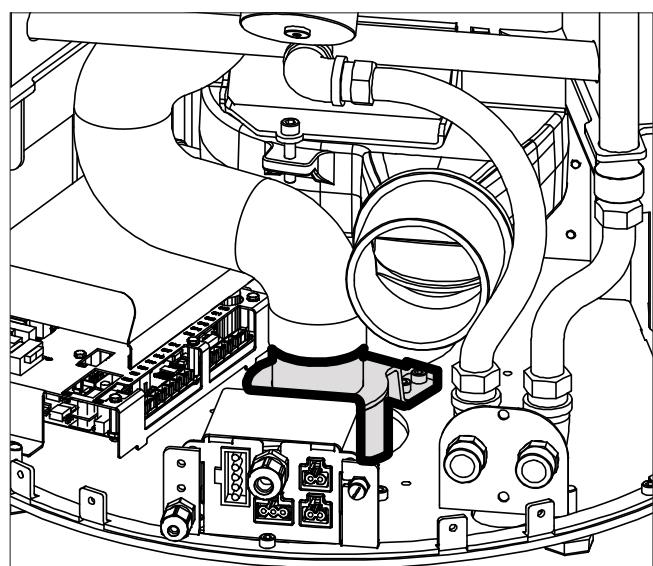

Fig. 2c
- Screw the combustion air duct onto the floor plate (Fig.2c).